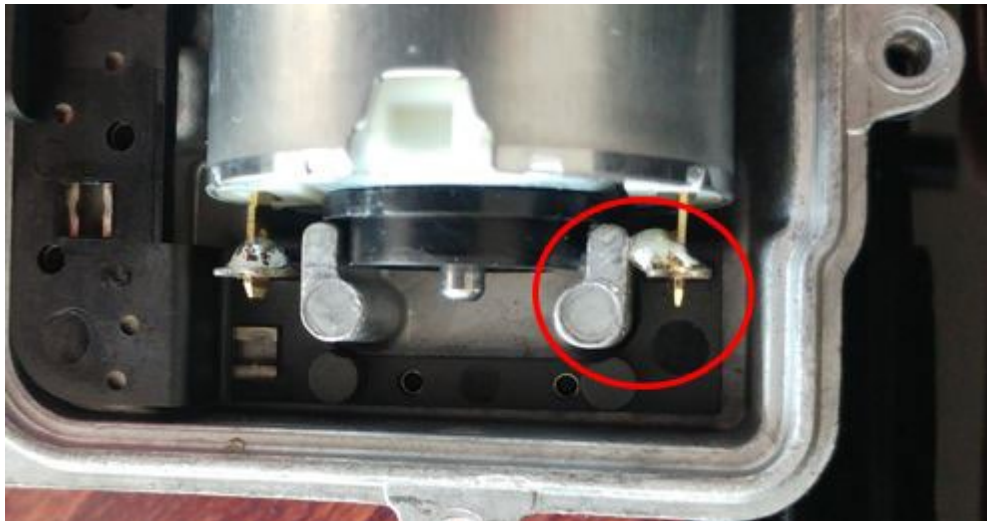

Figure 2. Short circuit caused by solder joint.
2. An improper solder joint inside the closing assist motor can cause a short circuit. This failure mode could cause DTC B12E015 to store (Figure 2).